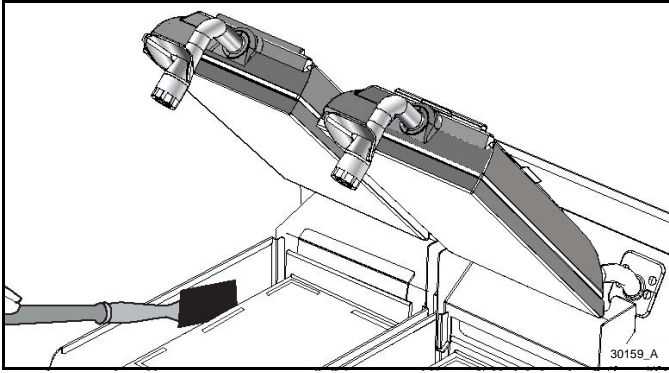

Figure-122
29. Scrub the lower platen sides. Repeat until the sides are fully covered. See Figure-122.